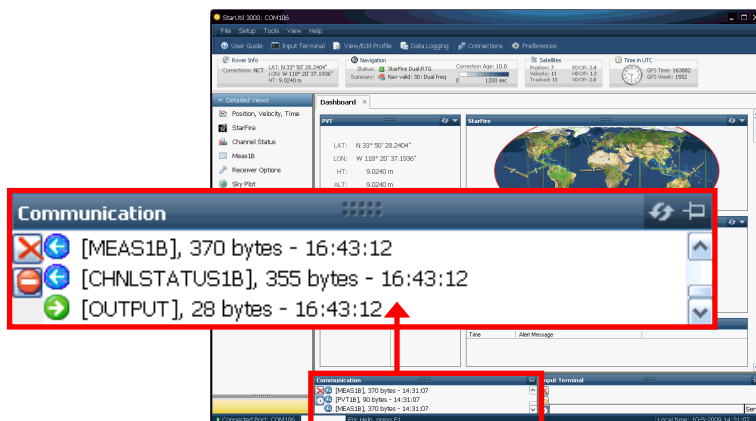

Figure 31: Communication Window – Valid Connection
5. Verify that the SF-3040 or the SF-3050 is connected to the PC. Scrolling messages in the *Communication* window indicate that a valid connection is established at the required baud rate (see Figure 31).